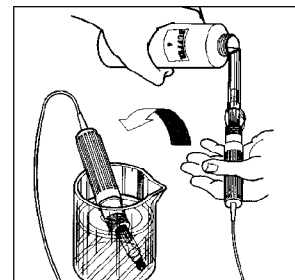

FIGURE 21
5. Rinse pH sensor with low buffer solution then place sensor in a clean container. Pour enough low buffer solution into the container to cover the sensor's tip (approximately 1") (see fig. 21).
7. Rinse pH sensor with mid buffer solution then place sensor in a clean container. Pour enough low buffer solution into the container to cover the sensor's tip (approximately 1") (see fig. 21).
9. Rinse pH sensor with high buffer solution then place sensor in a clean container. Pour enough low buffer solution into the container to cover the sensor's tip (approximately 1") (see fig. 21).
2. Rinse ORP sensor with 100 mV, low buffer solution, then place sensor in a clean container. Pour enough low buffer solution into the container to cover the sensor's tip (see fig. 21).
7. Rinse ORP sensor with 300 mV, mid buffer solution, then place sensor in a clean container. Pour enough mid buffer solution into the container to cover the sensor's tip (see fig. 21).
9. Rinse ORP sensor with 465 mV, high buffer solution, then place sensor in a clean container. Pour enough high buffer solution into the container to cover the sensor's tip (see fig. 21).